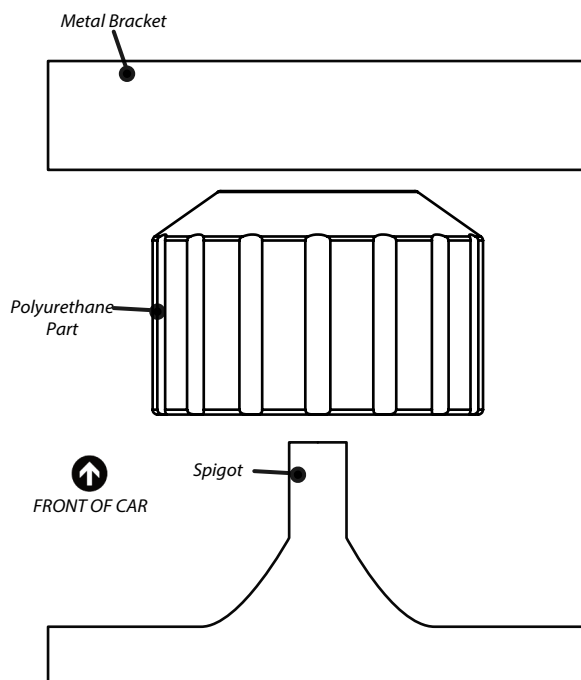

Figure 1 - diagram showing which way the polyurethane part goes into the bracket
5. Push the polyurethane bush onto the snub spigot, with the chamfered end facing in towards the back of the mounting cup, as shown in Fig 1.